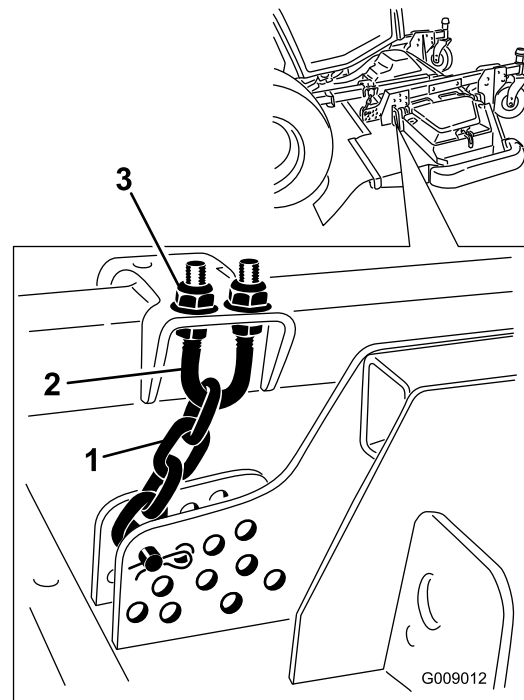

Figure 91
5. Loosen the jam nuts on the top or bottom of the height-of-cut chain U-bolt (Figure 91).